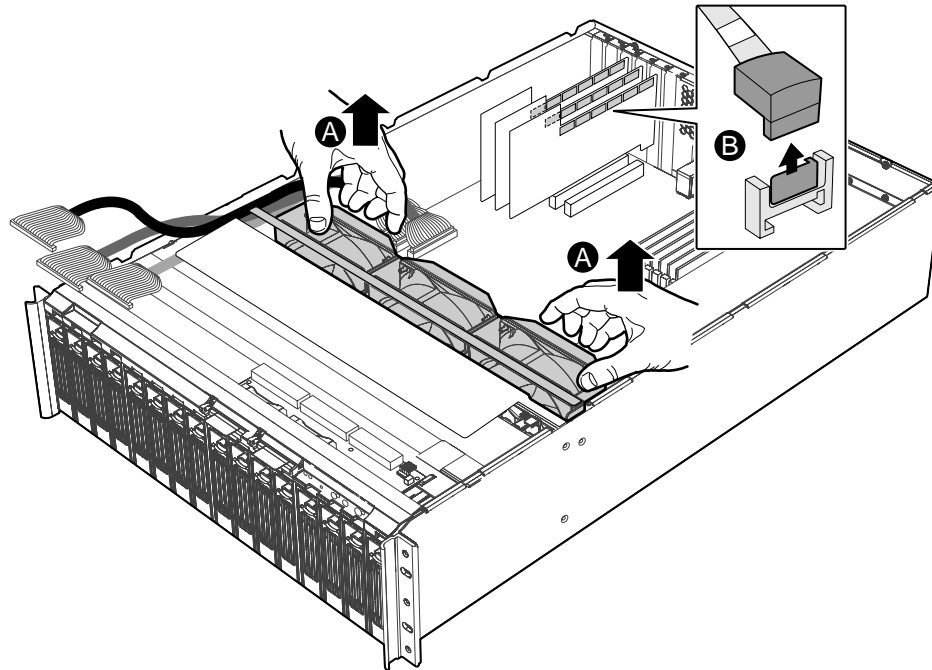

Figure 33. Removing Fan Assembly
- A. Simultaneously pull up on both sides of the fan assembly and remove the fan assembly from the storage system. Set the system fan assembly on a static-free surface. See Figure 33.